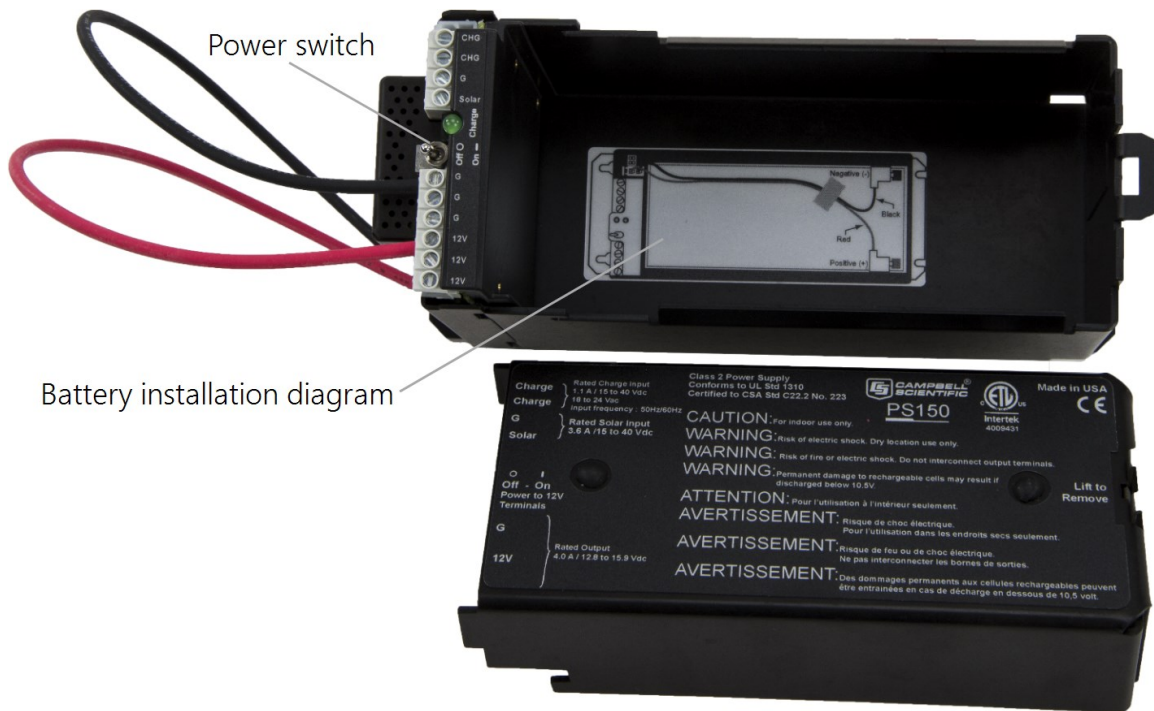

FIGURE 6-44. PS150 with lid open
1. Move the PS150 power switch to the **OFF** position (FIGURE 6-44 (p. 63)).
2. Remove the cover from the PS150 by sliding the latch up at one end of the cover and sliding the cover down and out (FIGURE 6-44 (p. 63)).
3. Install the battery according to the diagram (FIGURE 6-44 (p. 63)).